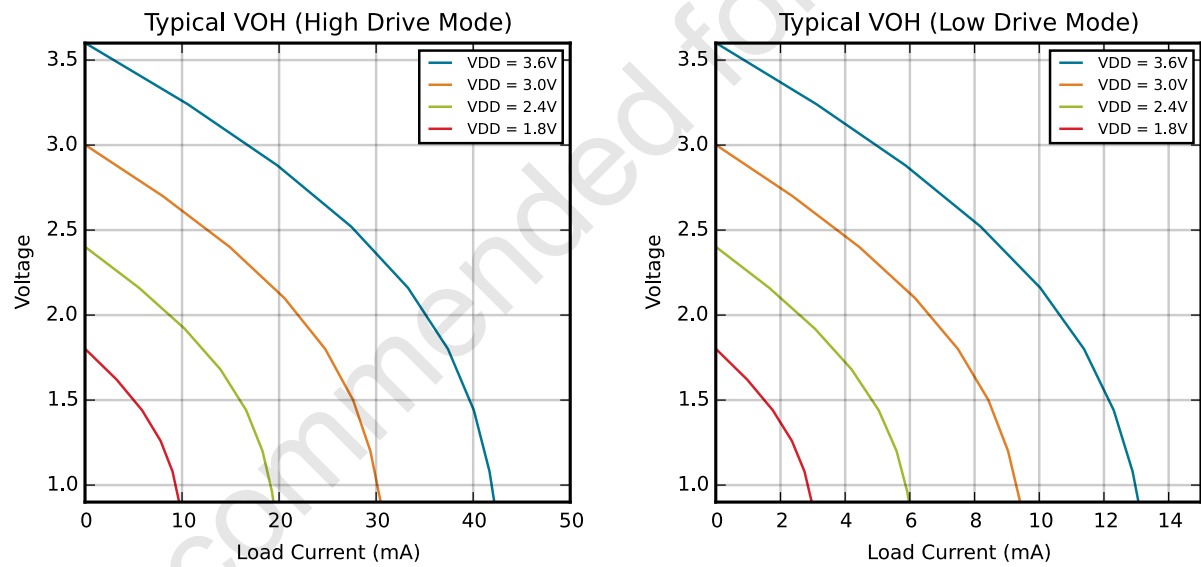
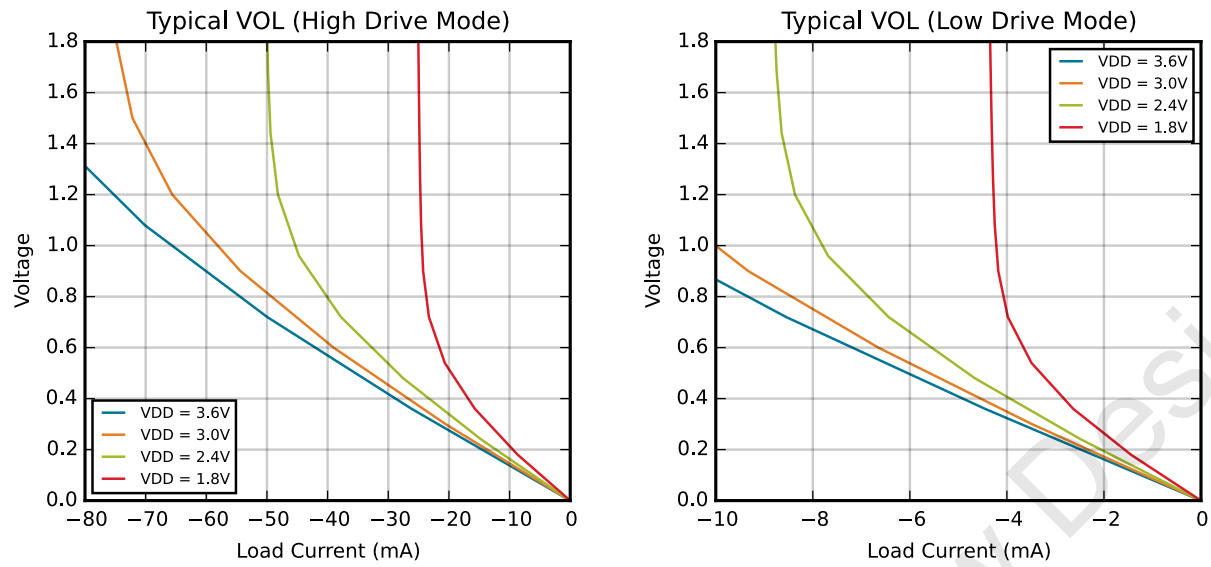

Figure 4.2. Typical V_{OH} Curves
Figure 4.3. Typical V_{OL} Curves
1. See Figure 4.2 Typical V_{OH} Curves on page 24 and Figure 4.3 Typical V_{OL} Curves on page 25 for more information.